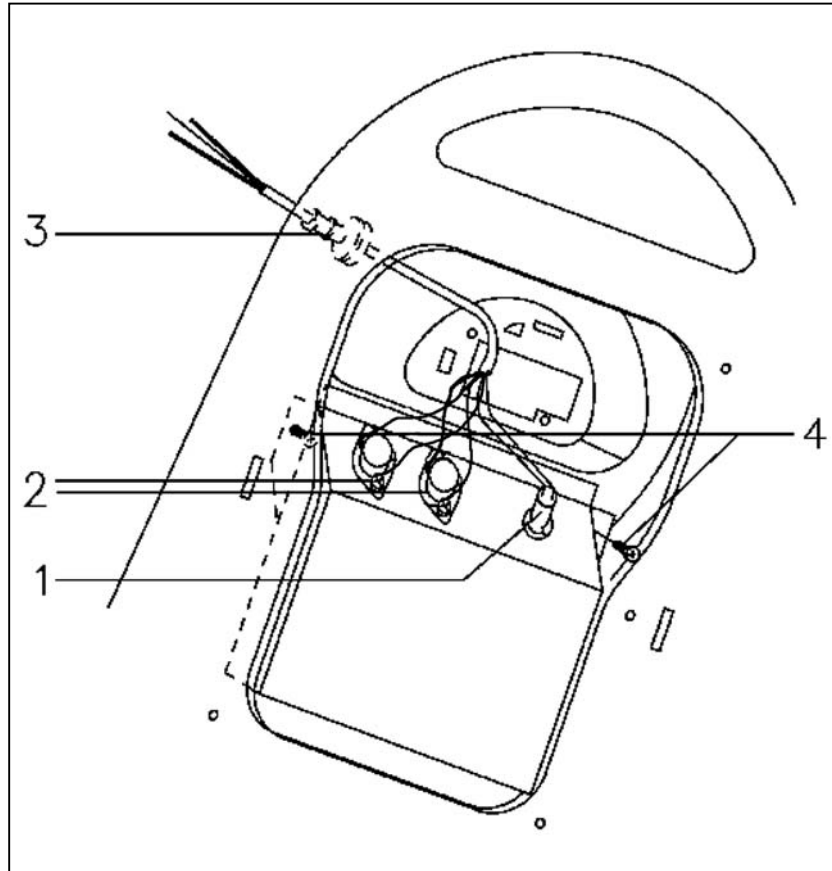

Figure 030-4: Heater bank, temperature limiters and temperature sensor
7. Refer to Figure 030-4. Remove the two 7mm screws (4).